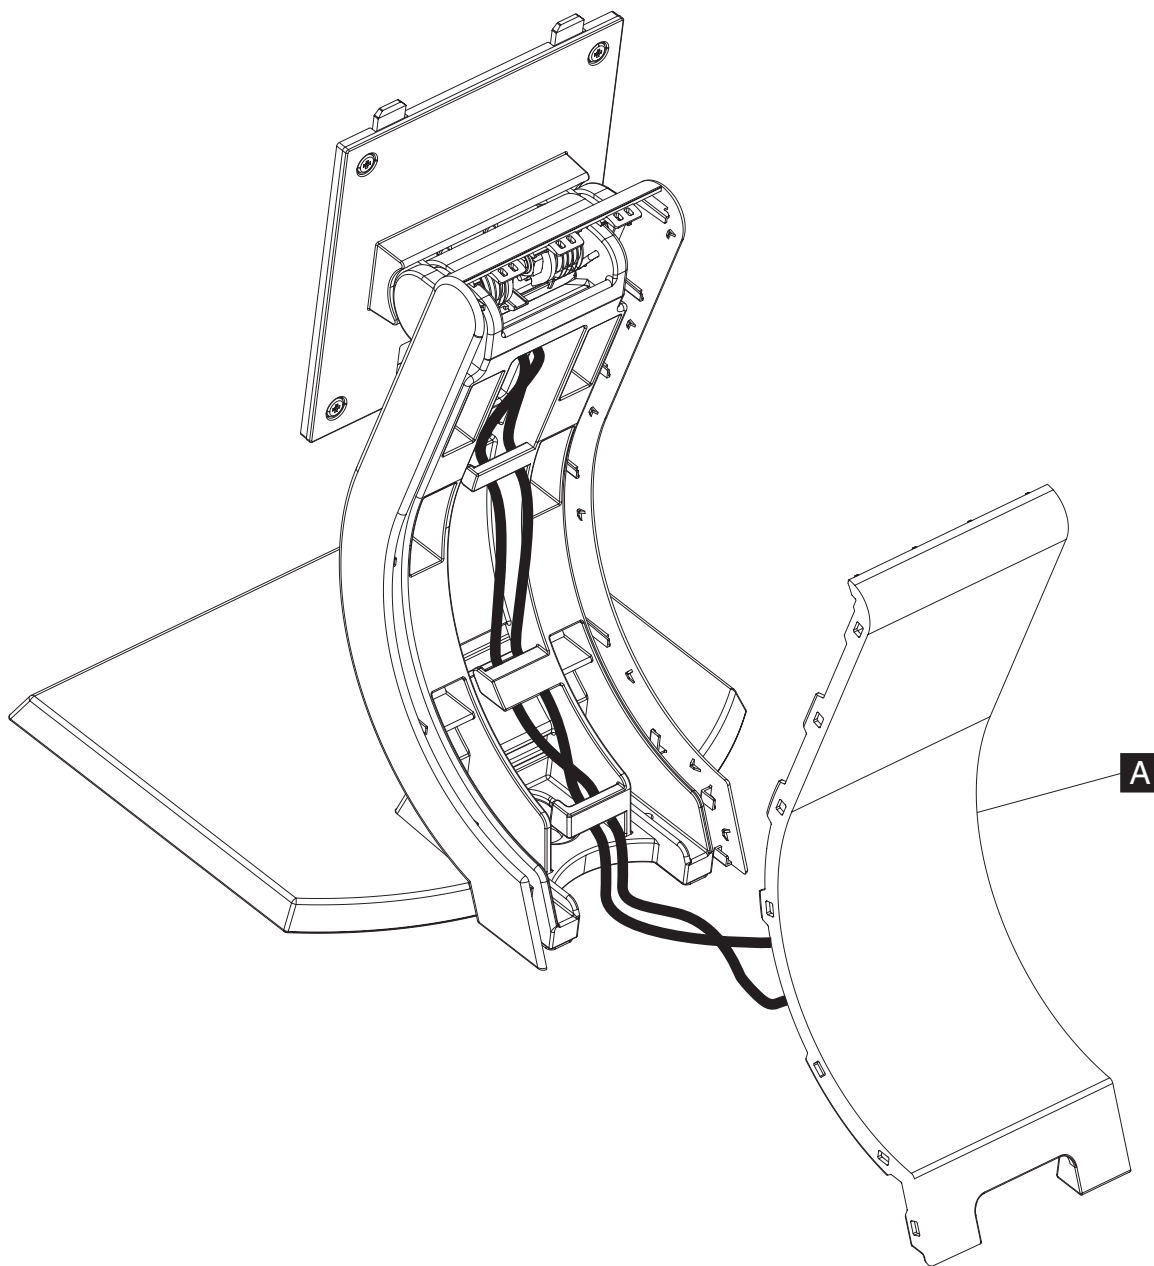

Figure 12. Cable routing for free-standing pedestal
4. Connect and route the cables to the 4820 by referring to Figure 12 on page 16, if necessary: